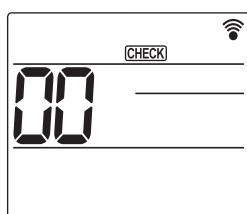

Fig. 7-8
- ① Turn on the power to the unit at least 12 hours before the test run.
- ② Press the **[MENU]** button for 5 seconds. (Fig. 7-8)